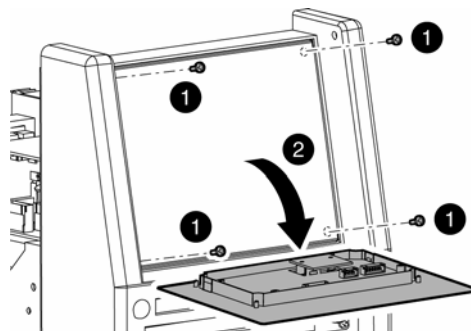

Figure 12. VRD ON/OFF Step B,C
- b) Remove four mounting screws from the control panel. (see Figure 12)